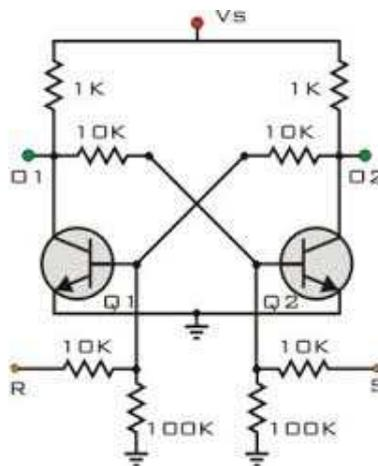

Figure 6: The flip flop
A transistorised circuit (see figure 6 on page 7) has the ability of changing and maintaining the output state. The circuit in figure 6 has following features:
1. Give a positive going pulse to terminal "S" (set) in figure 6. This makes output "O1" HI. It will remain HI (5V).
2. Give a positive going pulse to terminal "R" (reset) in figure 6. This makes output "O1" LO. It will remain LO (0V).